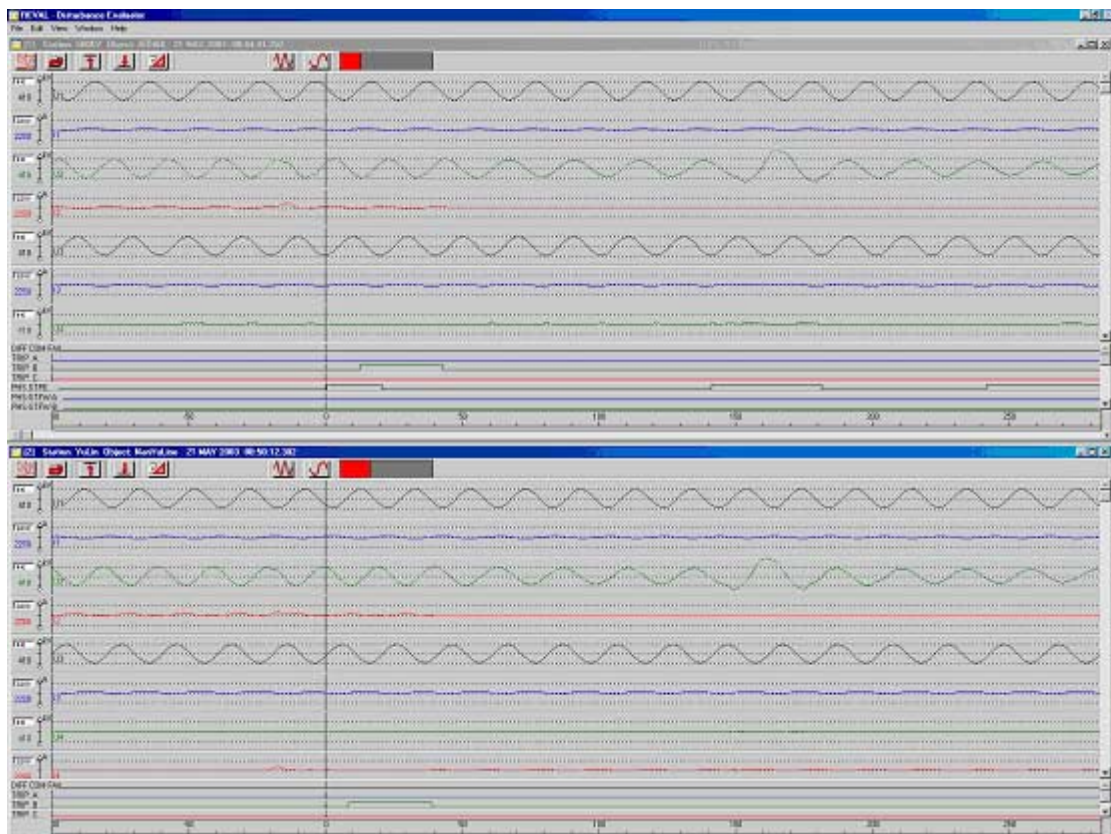
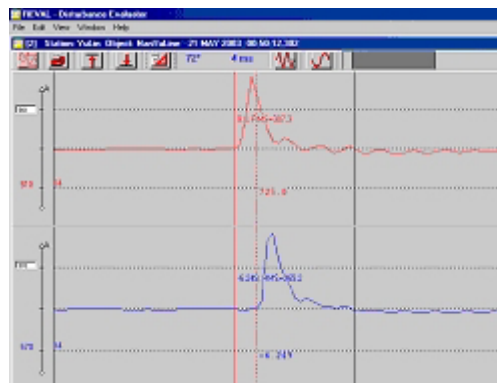

Figure 1: Two disturbance records from two REL 561 terminals within the same REVAL window
Figure 3: Comparison of residual currents from both REL 561 terminals for the same line fault.
Disturbance records on operation of both REL 561 (551) terminals for the same fault should be saved in PC, and open one after another with the same REVAL window. An example for files L_SIDE.reh and R_SIDE.reh is presented in Figure 1.
Appearance of residual current or voltage as a big changes in phase currents or voltages at both line ends can be selected in many cases. Figure 3 shows a zoomed presentation of residual currents for the case from Figure 1. Observe that it is possible to move different signals close to each other by dragging them and dropping to the selected position. Measure the time between big changes in both signals. In case of Figure 3 it shows 4ms.